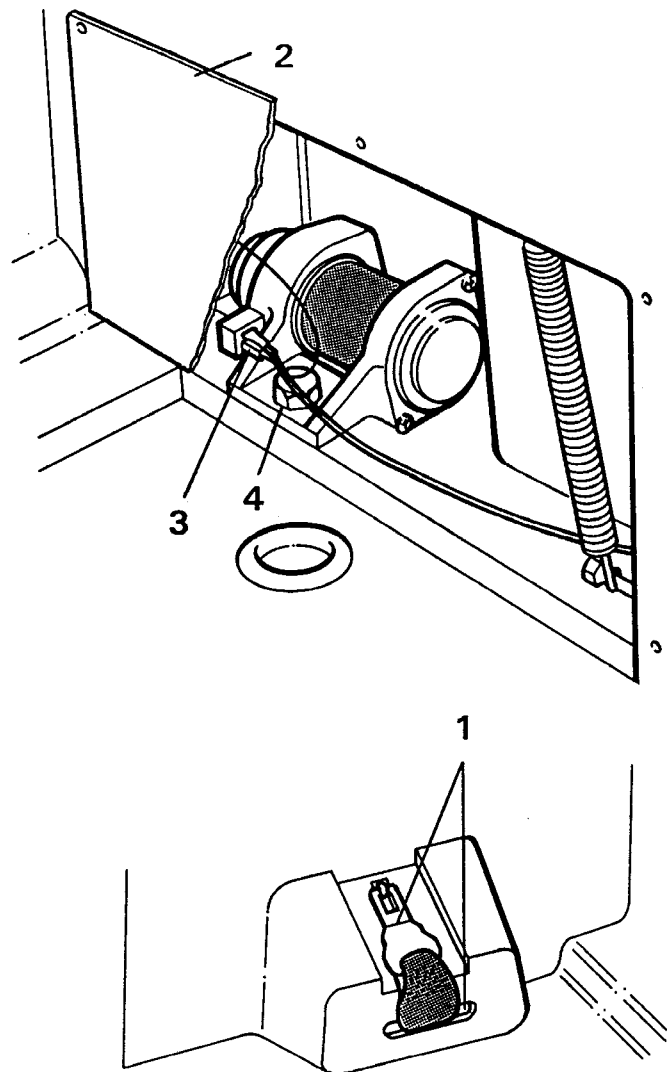

Figure 8
2. From within the luggage compartment, remove the four screws, securing the access panel to the partition. See figure 8.